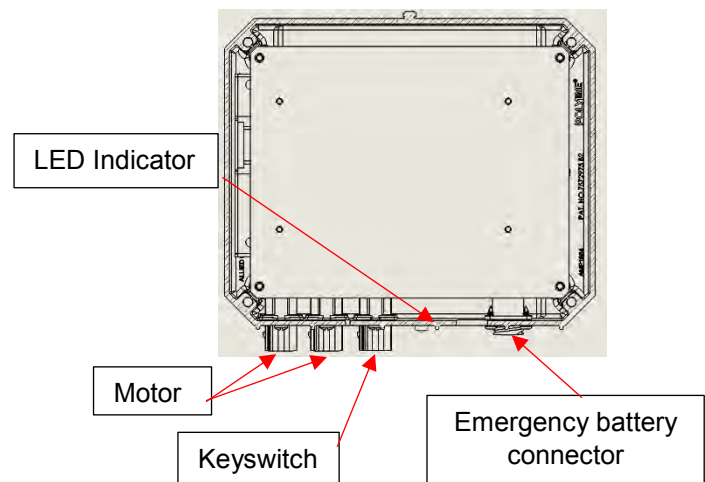

Figure 103
- 3) Start by connecting the two motor jack harnesses to the AC control box (Figure 103). **Use the wires that were connected in step 13 in the lifting mechanism assembly section.** Put the exceeding wires as close to the swim spa as possible to hide and protect the wires. (Figure 106)